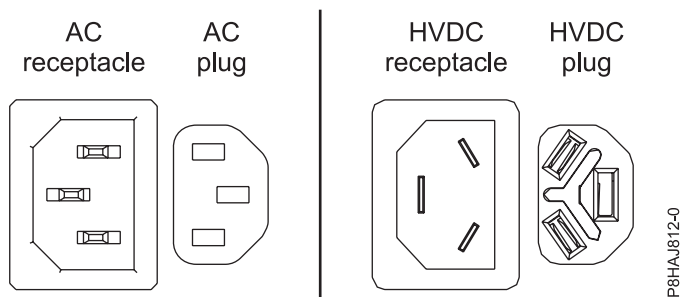
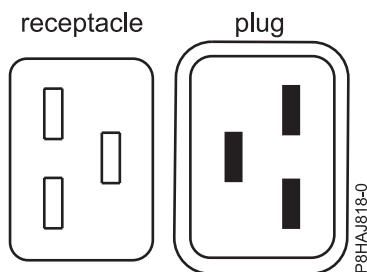
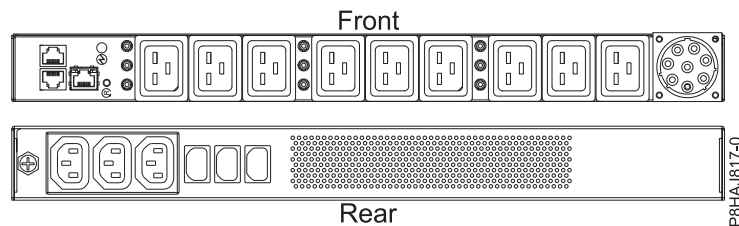

Figure 33. AC and HVDC connectors
Figure 34. Connectors for the 8408-44E system
Figure 35. PDU for the 8408-44E system
Figure 33 shows the supported alternate current (AC) and high voltage direct current (HVDC) connectors. Figure 34 and Figure 35 show the supported connectors and power distribution unit (PDU) for 8408-44E.